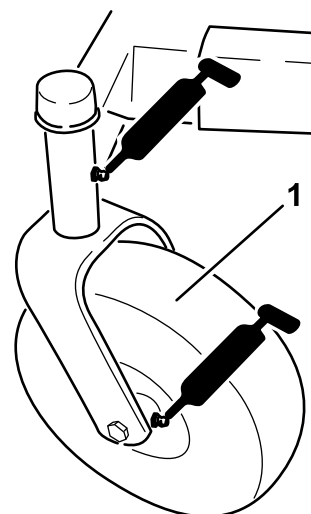
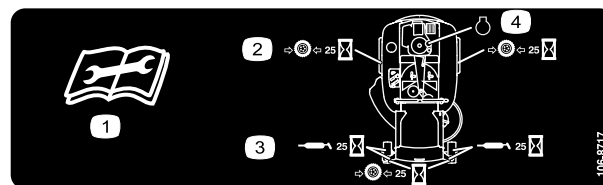

Figure 21
Figure 22
3. Clean the grease fittings (Figure 21 and Figure 22) with a rag. Make sure to scrape any paint off of the front of the fitting(s).
4. Connect a grease gun to each fitting (Figure 21 and Figure 22). Pump grease into the fittings until grease begins to ooze out of the bearings.